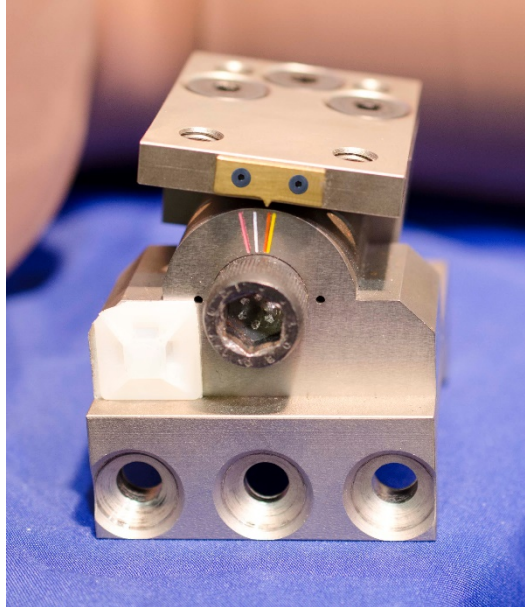
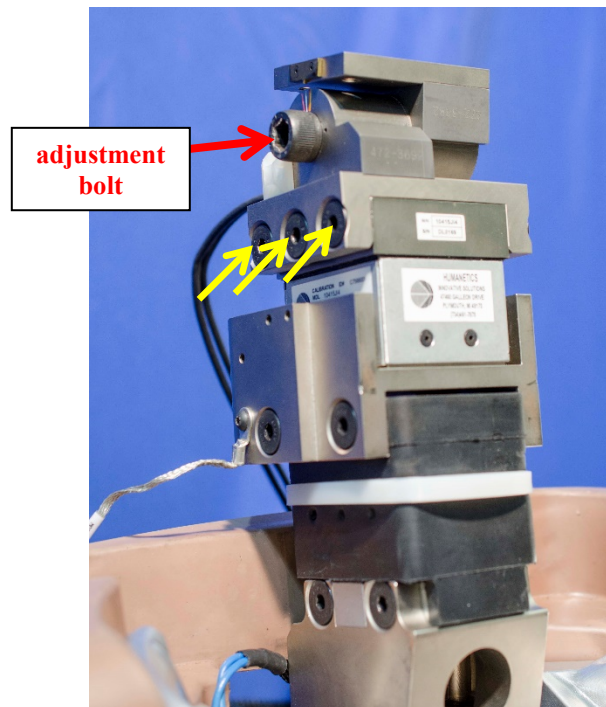

Figure 5-16. Lumbar spine pitch assembly
Figure 5-17. Secure lumbar spine pitch assembly to thoracic spine load cell
5.2.2.10 Attach the Lumbar Spine Pitch Change Mechanism (472-3670) (Figure 5-16) to the Thoracic Spine Load Cell using six M8 X 1.25 x 20 FHCS (Figure 5-17). Orient the head of the M12 1.75 x 60 mm SHCS adjustment bolt in the pitch change mechanism to the right-hand side of the spine assembly. After achieving the desired lumbar angle, re-tighten the M12 adjustment bolt torque to 68.0 N-m (50.5 ft-lbf). For detailed instructions to set the lumbar angle, see Section 5.3.1.